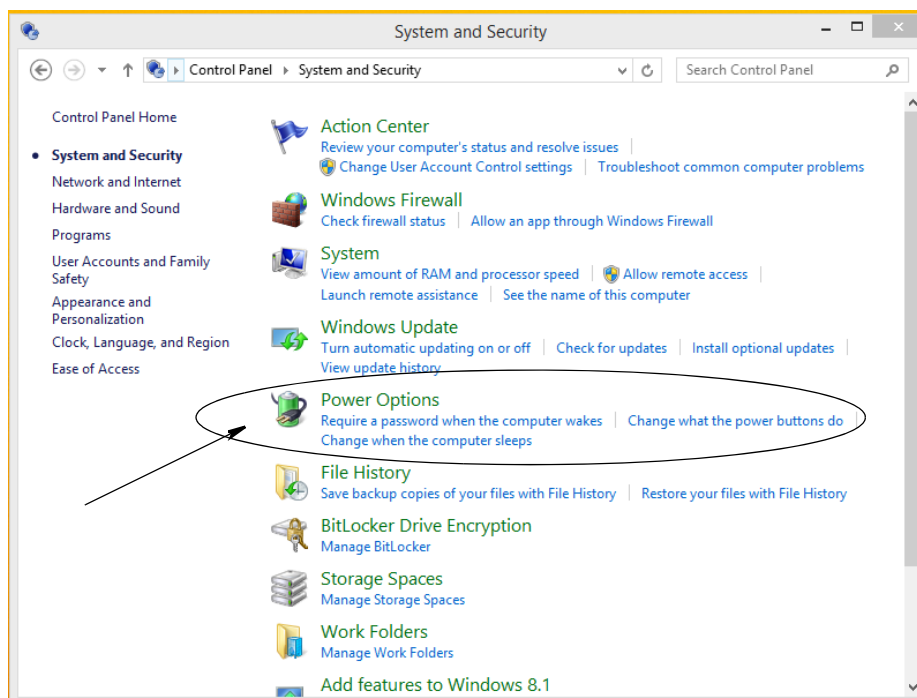

FIG. 58
2. Select the System and Security Link and Power Options from the list (FIG. 58).